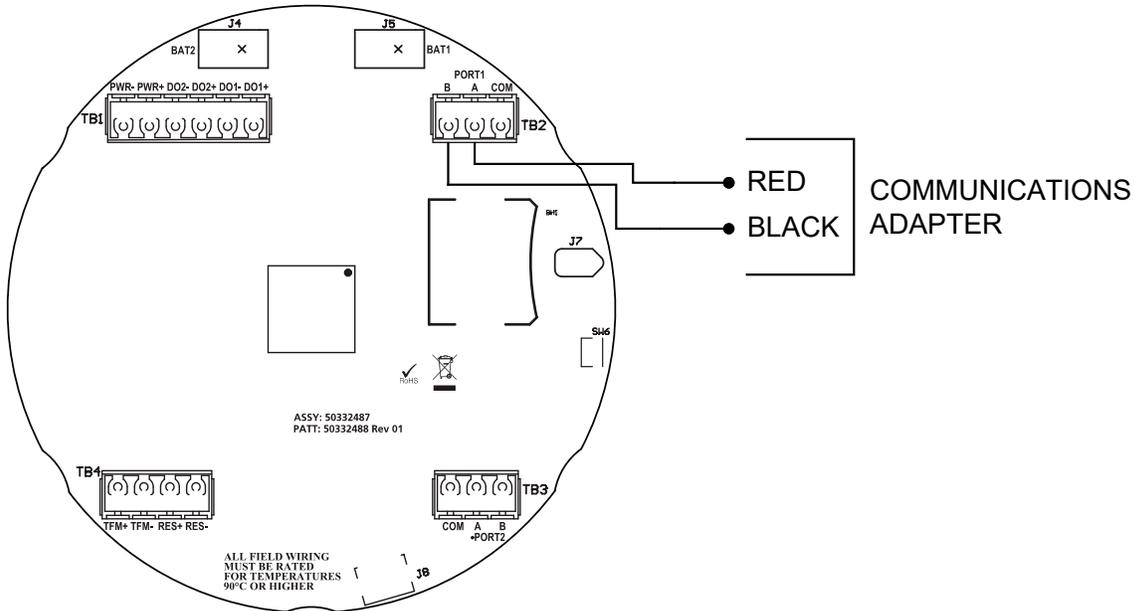

Figure A.5—Circuit board connection for communications adapter
2. Connect the adapter cable to the RS-485 port on the MC Synergy main circuit board on TB2 or TB3 (Figure A.5).
3. Connect the adapter cable to either RS-485 port on the MC Synergy main circuit board (TB2 or TB3) as shown in Figure A.5, page A-4).